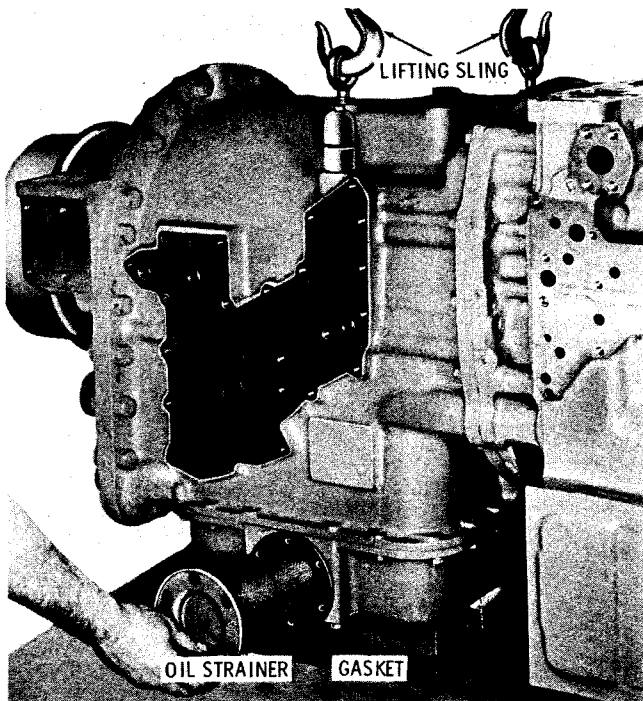

Fig. 5-7. Removing oil strainer
(11) Attach a 2-strand lifting sling to the top of the transmission and raise it slightly (fig. 5-7). Remove six bolts and lockwashers from the oil strainer. Remove the strainer and gasket.